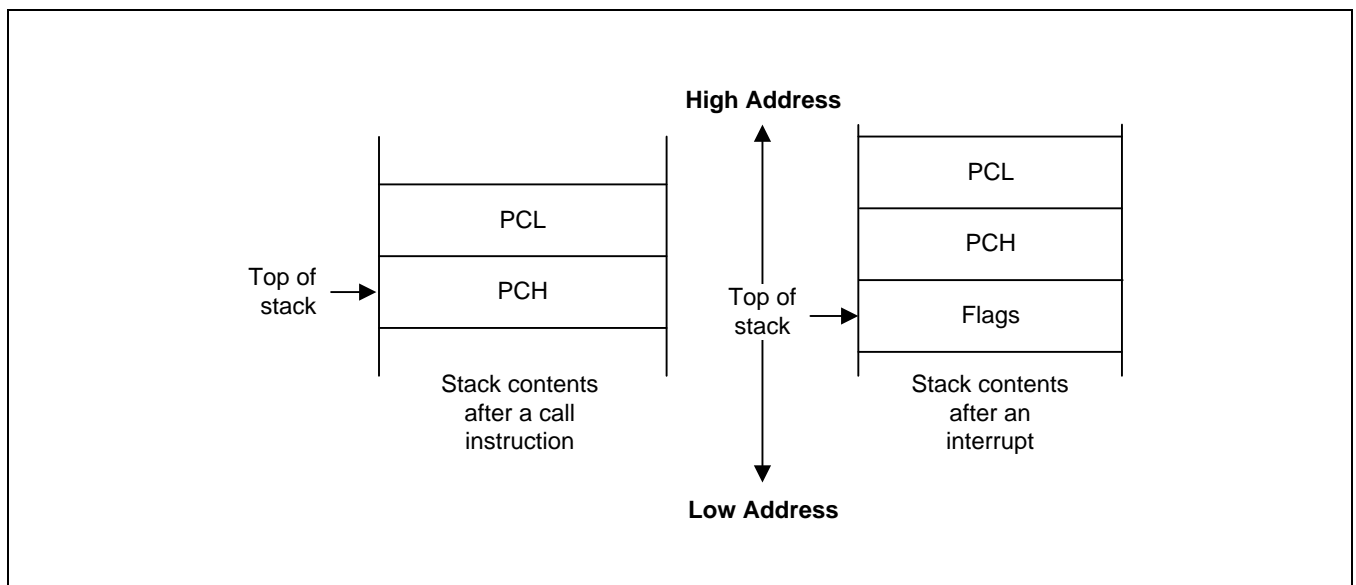

Figure 2-16 Stack Operations
Return addresses for procedure calls, interrupts and data are stored on the stack. The contents of the PC are saved to stack by a CALL instruction and restored by the RET instruction. When an interrupt occurs, the contents of the PC and the FLAGS registers are pushed to the stack. The IRET instruction then pops these values back to their original locations. The stack address value is always decreased by one before a push operation and increased by one after a pop operation. The stack pointer (SP) always points to the stack frame stored on the top of the stack, as shown in Figure 2-16.